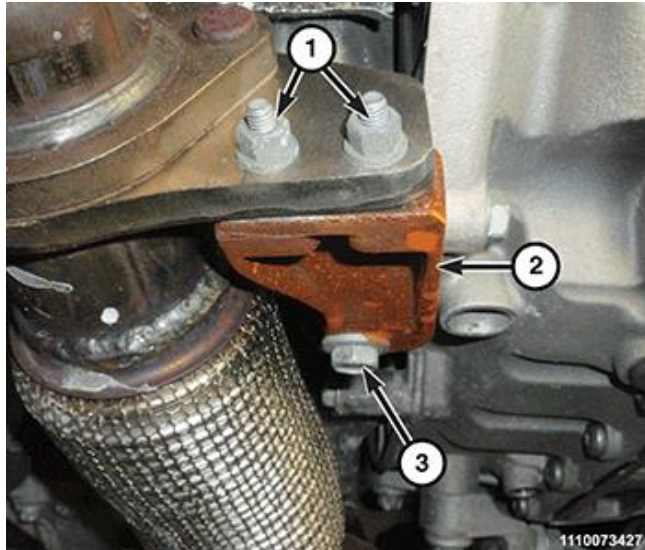

Figure 44 – Support Bracket
- c. Remove the nuts (1), bolt (3) and the support bracket (2) (Figure 44).